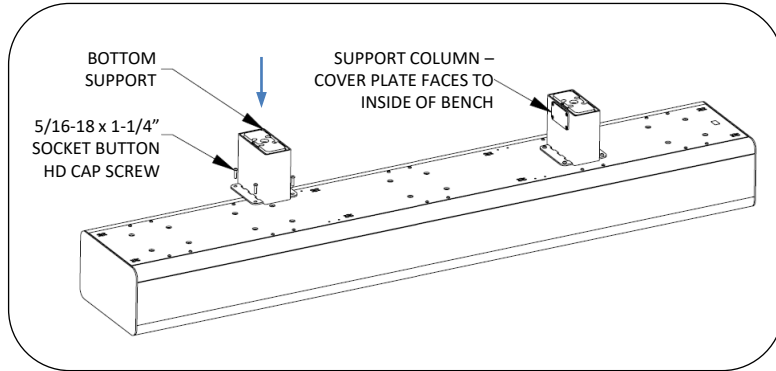
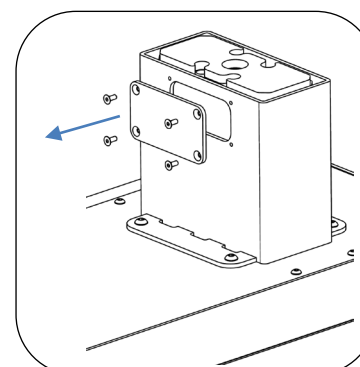

Fig. 2– Install supports
Fig. 5 – Remove cover plate
PROCEDURE FOR ASSEMBLY: Refer to site plans for correct placement and orientation of support columns and beams. Cover plate access hole should be installed toward the middle of the bench when possible, see Fig. 2. Note that intermediate and bottom support columns are different heights. Each beam with holes on the top of the seat panel also needs a bottom support installed at the same position. For example, a beam with holes in position 2 on the top of the seat also needs a bottom support in position 2.
2. Attach each support column to seat using (4) 5/16-18 x 1-1/4" socket button head cap screws, see Fig. 2. Remove cover plates and set aside for later use, see Fig. 5.